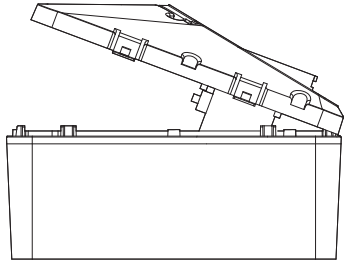

fig. 6
1. Carefully drill a hole in the main case following either fig. 6 (Method 1 - bottom entry) or fig. 7 (Method 2 - rear entry).
**For method 1 installation**, the cable entry hole size is recommended to be  $\varnothing 20\text{mm}$  for single-phase, (6mm2 3 core cable), for use with the  $\varnothing 20\text{mm}$  cable gland, and  $\varnothing 25\text{mm}$  for single-phase (10mm2 3 core cable), for use with the  $\varnothing 25\text{mm}$  cable gland. (Refer to fig. 6).